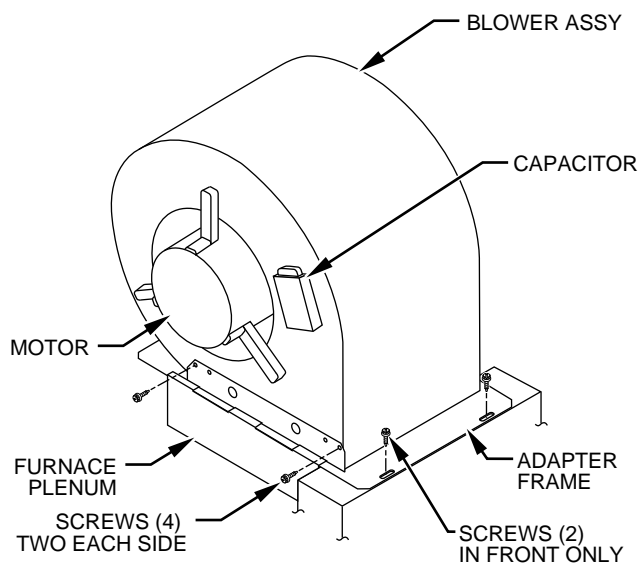

Fig. 7A—Coleman 3400 Series Installation
1. Start blower rail flanges into blower slots and push blower into furnace. (See Fig. 7A or 7B.)